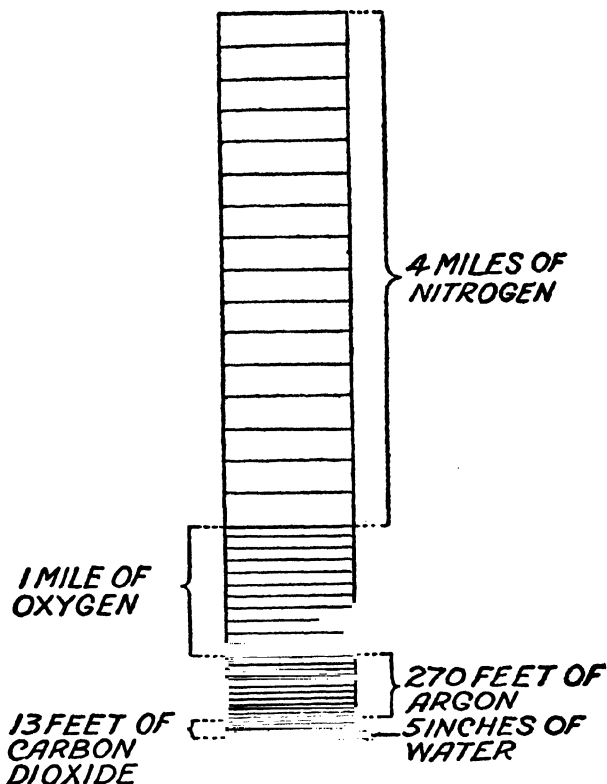

FIG. 1. WHAT AIR IS MADE OF
The atmosphere, or air, is made up of two gases, namely, (1) *oxygen* (O) and (2) *nitrogen* (N), and these are mixed in the proportion of one part of oxygen and four parts of nitrogen by bulk. While these two elements make up the larger part of the atmosphere the latter always has small amounts of other substances in it such as *carbon dioxide* (CO_2), or carbonic acid gas as it is commonly called, water vapor, ammonia (NH_3), a trace of *argon* (A), *neon* (Ne), *krypton* (Kr), and some other rare gases.³ See Fig. 1.